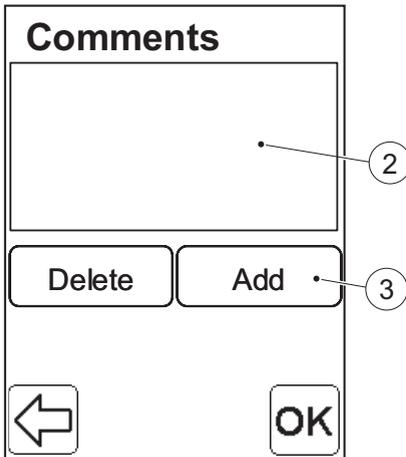
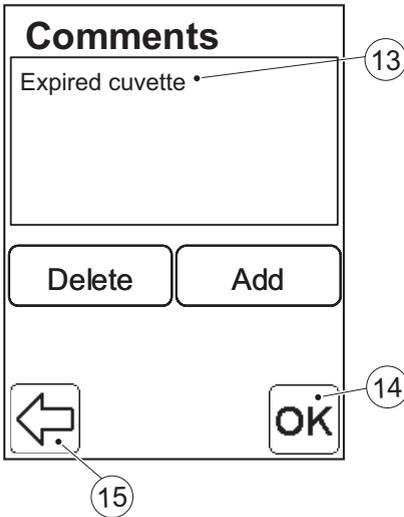

FIGURE 6-15
FIGURE 6-19
FIGURE 6-15 will be displayed.
- c) To add comments to the result from the first cuvette, follow the same procedure as in 6.1.3 *Entering Comments*, FIGURE 6-15 to FIGURE 6-19.
- e) To add comments to the result from the second cuvette, follow the same procedure as in 6.1.3 *Entering Comments*, FIGURE 6-15 to FIGURE 6-19.